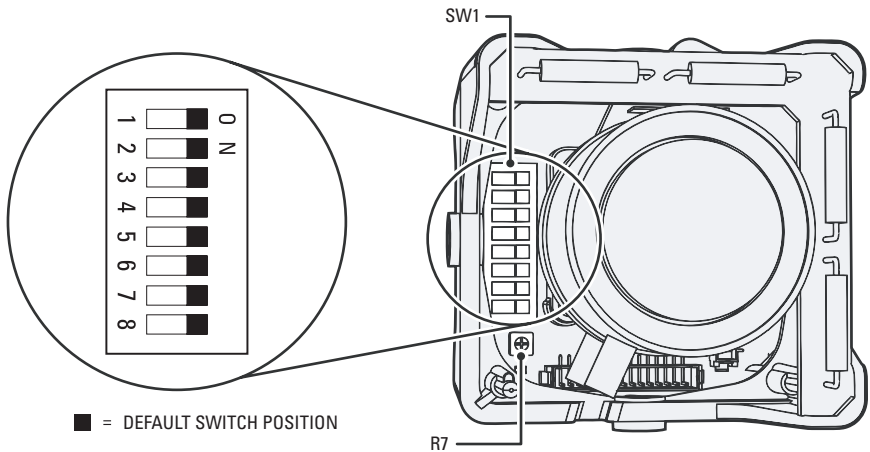

Figure 13. Adjusting the IS110-DW/CW Series Camclosure
Refer to Figure 13 to adjust the IS110-DW or IS110-CW model.
2. Select the camera to synchronize. Use the phase adjustment control (R7) to synchronize the camera to the reference camera (refer to Figure 13 on page 25). Turn R7 clockwise to increase vertical phase; turn R7 counterclockwise to decrease vertical phase.